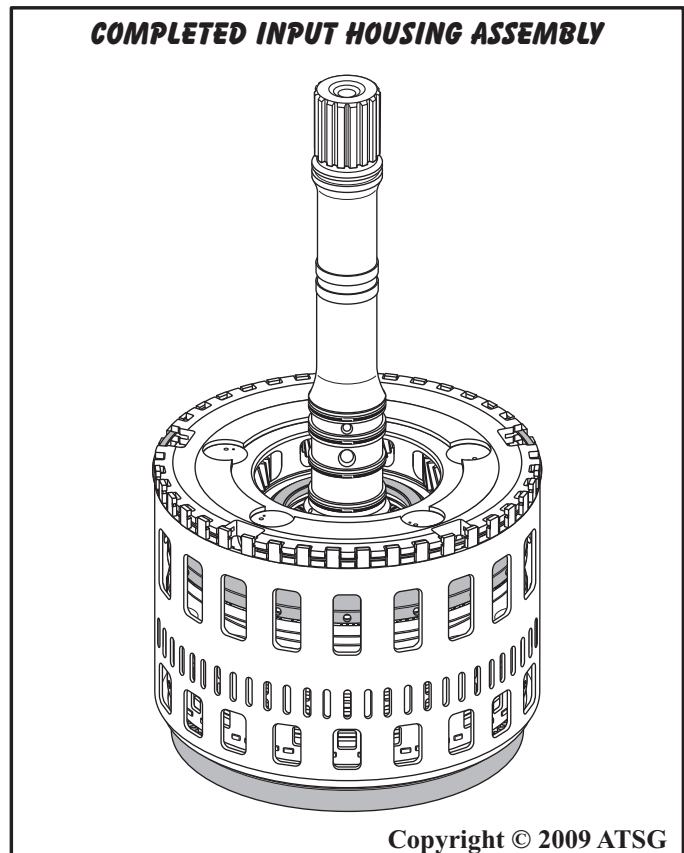

Figure 105
25. Set completed input housing assembly aside for final assembly process (See Figure 105).